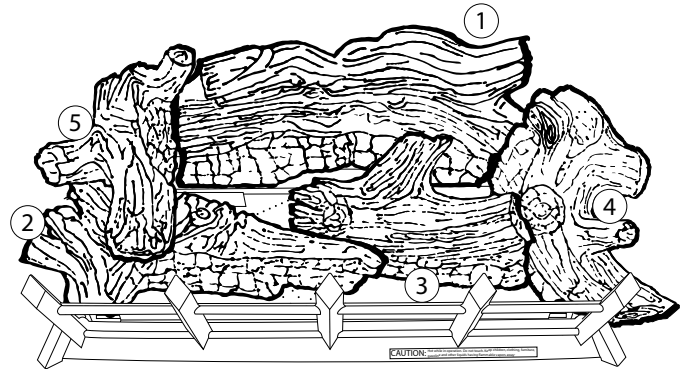

Figure 53.
5. Place the top left log (#5) on the left side of the burner allowing the log to rest on top of the front left log (#2). (See Figure 53)